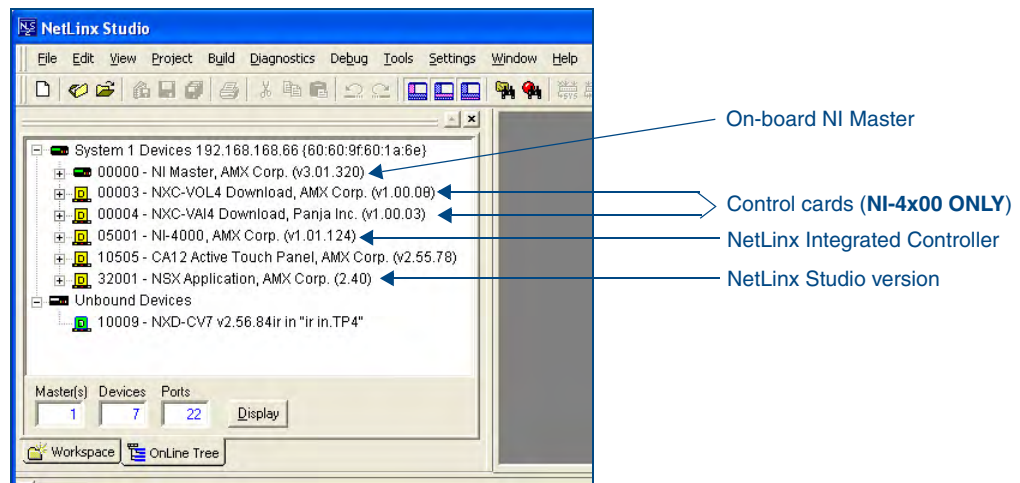

FIG. 9 Sample NetLinx Workspace window (showing OnLine Tree tab)
2. After NetLinx Studio has established a connection to the target Master, click the **OnLine Tree** tab of the Workspace window to view the devices on the System. *The default System value is one (1).*
4. After the Communication Verification dialog window verifies active communication between the PC and the NI unit, verify the NetLinx NXC Control Cards appear in the **OnLine Tree** tab of the Workspace window (FIG. 9).